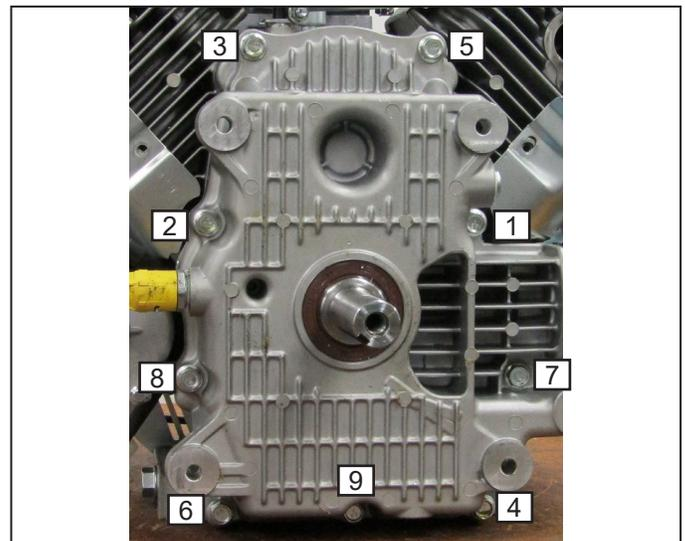

Figure 2
6. Remove and retain 9 qty. M8 x 48 Case Bolts (710-06501) in order of appearance of Figure 2.
- NOTE: Use the torque pattern shown on Page 1 Figure 2 and tighten the cover bolts.**